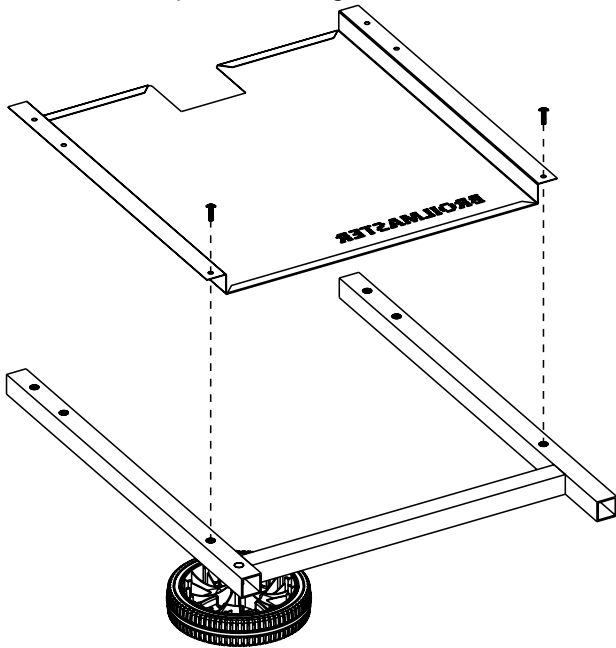

FIGURE 3
The instructions in this manual will guide you to assemble the Garden Cart and drop-down side shelf/pull handle for the grill as shown in Figure 1. If you choose to install the drop-down side shelf/pull handle on the right side of the grill as shown in Figure 2. Start with the opposite frame assembly shown in Figure 3.
Lay one frame assembly on a non-abrasive surface. Place front panel onto frame assembly. Attach bottom of front panel to bottom of frame assembly with two (2) 1/4-20 x 3/4 Phillips screws. Figure 3